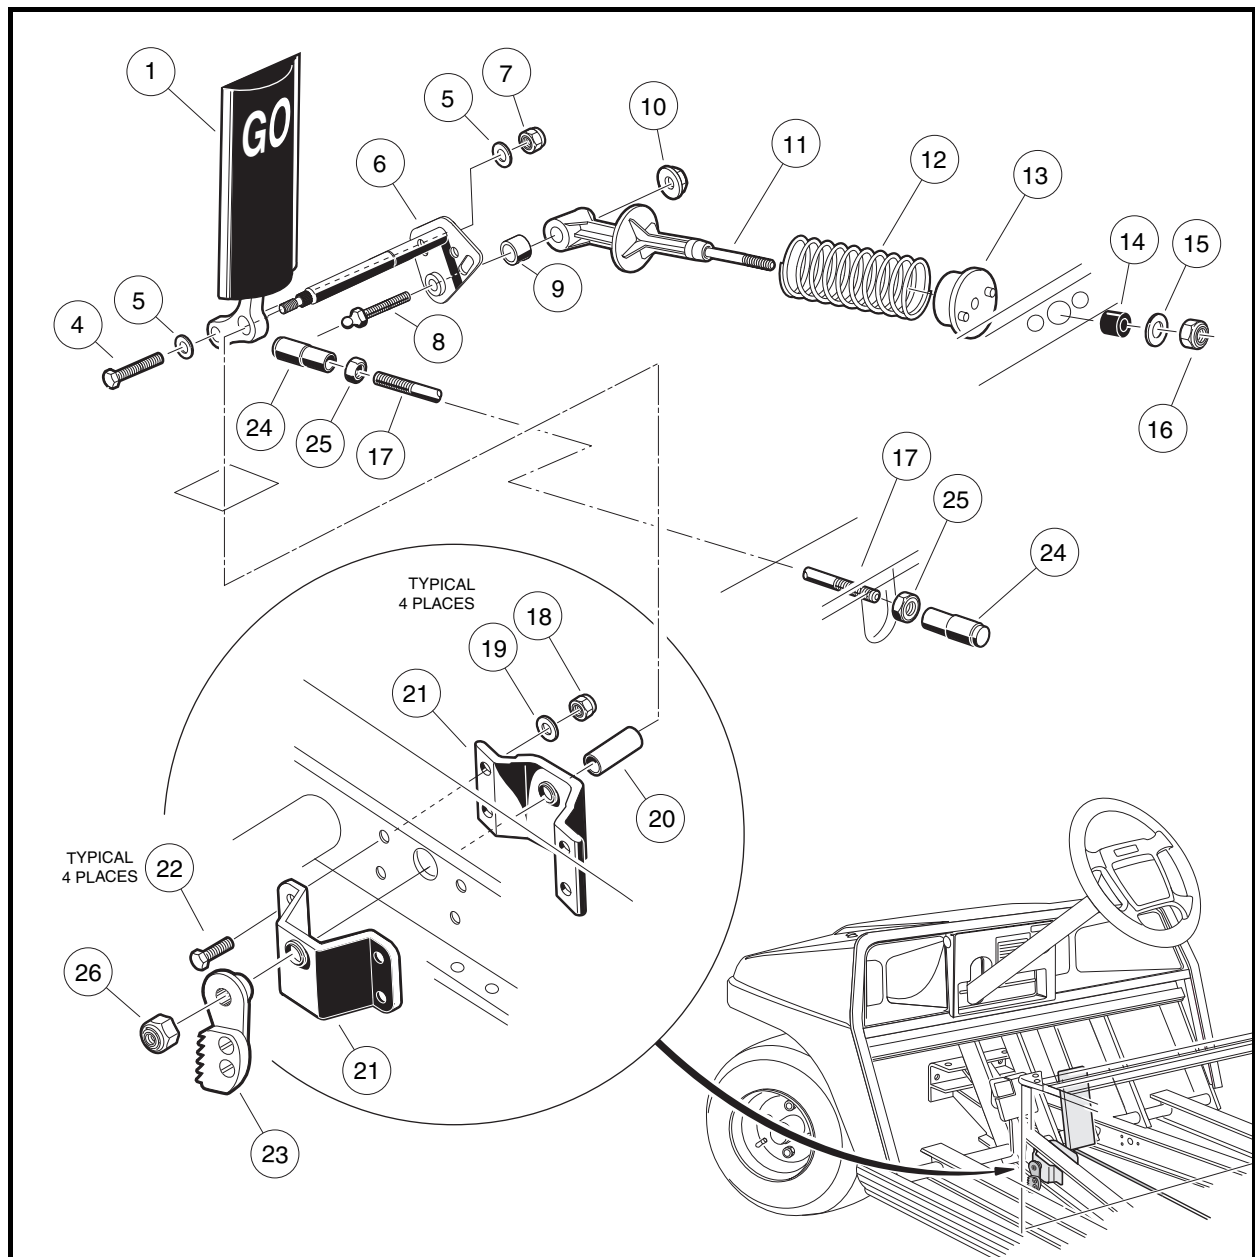

Figure 5-6 Accelerator Pedal – Gasoline Vehicles
3. Disconnect the accelerator rod assembly (17, 25, and 24) (**Figure 5-6, Page 5-7**) at the front and rear ball studs and remove it from the vehicle.
4. Use a 9/16-inch socket and 9/16-inch wrench to remove the nut (7), two washers (5), and bolt (4) securing the accelerator pedal (1) to the pivot rod (6).
5. Remove the nut (10) and ball stud (8) from the accelerator pivot rod assembly (6).
6. Slide the spring retainer (11) off of the accelerator pivot rod.
7. Inspect the pivot support bearing (9) for wear and replace if necessary.
8. Use a marker to mark the position of the park brake ratchet (23) on the accelerator pivot rod (6) (**Figure 5-6, Page 5-7**). See following **NOTE.**
9. Remove the lock nut (26) from the accelerator pivot rod.
10. Press the brake pedal slightly and slide the park brake ratchet (23) toward the end of the accelerator pivot rod. Rotate the ratchet and remove it from the pivot rod.
11. Remove the pivot rod (6) and spacer (20) from the accelerator pivot rod supports (21) (**Figure 5-6, Page 5-7**).
12. Inspect the accelerator pivot rod supports (21) for wear and damage and replace if necessary. If the pivot rod supports do not require replacement, loosen, but do not remove, the four bolts (22) and lock nuts (18) to make installation of the pivot rod easier.
13. Remove the accelerator pedal (1) from the vehicle.
1. If the accelerator pivot rod supports were replaced, position the supports (21) on the vehicle frame and install the four bolts (22), flat washers (19), and lock nuts (18). Finger-tighten nuts at this time (**Figure 5-6, Page 5-7**).
2. Insert the lower end of the accelerator pedal (1) through the floorboard and install the accelerator pivot rod (6) through the uppermost hole in the pedal.
3. Install the plastic spacer (20) on the pivot rod (6).
5. Tighten the four bolts (22) attaching the pivot rod supports to the frame to 75 in-lb (8.5 N·m).
6. Install the bolt (4), two washers (5), and a new lock nut (7) through the lower hole in the pedal and through the pivot rod. Finger-tighten nut at this time.
7. Install the ball stud (8) through the pivot rod. Install the spring retainer (11) onto the ball stud. Secure these parts with the nut (10) (**Figure 5-6, Page 5-7**). Tighten the nut to 75 in-lb (8.5 N·m).
11. Install the nylon lock nut (26) on the pivot rod and tighten the nut to 18 ft-lb (24 N·m) (**Figure 5-6, Page 5-7**).
12. Install the accelerator rod assembly (17, 25, and 24) (**Figure 5-6, Page 5-7**).